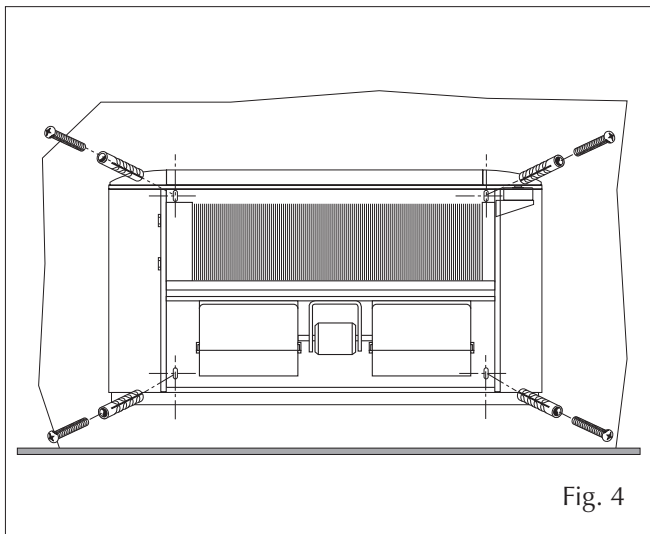

Fig. 4
- Use expansion plugs (not supplied) to secure the unit to the wall as indicated in Fig. 4.